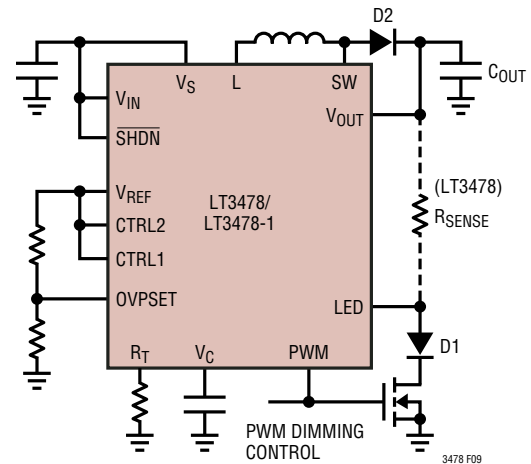

Figure 9. PWM Dimming Control Using the LT3478/LT3478-1
Many LED applications require an accurate control of the brightness of the LED(s). In addition, being able to maintain a constant color over the entire dimming range can be just as critical. For constant color LED dimming, the LT3478/LT3478-1 provide a PWM pin and special internal circuitry to allow up to a 3000:1 wide PWM dimming range. With an N-channel MOSFET connected between the LED(s) and ground and a PWM signal connected to the gate of the MOSFET and the PWM pin (Figure 9), it is possible to control the brightness of the LED(s) based on PWM signal duty cycle only. This form of dimming is superior to dimming control using an analog input voltage (reducing CTRL1 voltage) because it allows constant color to be maintained during dimming. The maximum current
- (5) Higher output capacitor value improves PDR
- (6) Choose the schottky diode (D2, Figure 9) for minimum reverse leakage